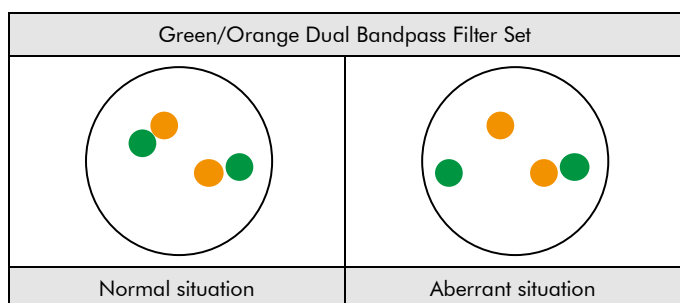

Fig. 2: Expected results in normal and aberrant nuclei
**Normal situation:** In interphases of normal cells or cells without a translocation involving the MYB gene region, two green/orange fusion signals appear (see Fig. 2).
**Aberrant situation:** One MYB gene region affected by a translocation is indicated by one separate green signal and one separate orange signal (see Fig. 2).